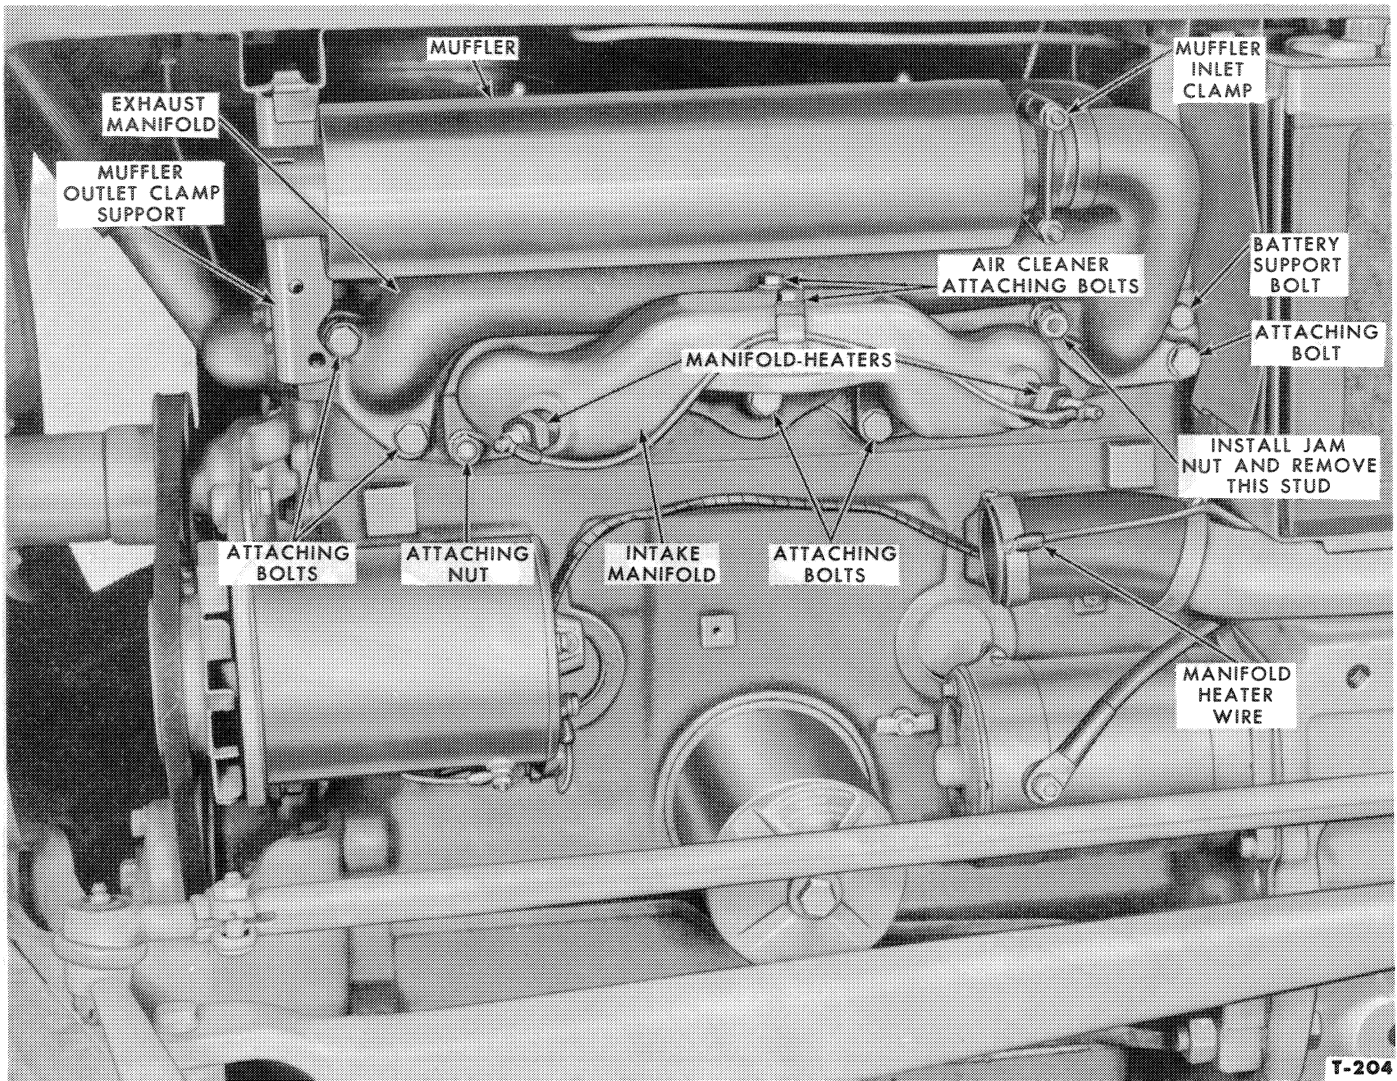

Figure 21—Intake and Exhaust Manifold Installed
5. Loosen the one nut that attaches the exhaust manifold to the cylinder head one turn. Hold the nut in that position then run another nut against it to act as a jam nut as shown in Figure 21. Remove the stud from the cylinder head.